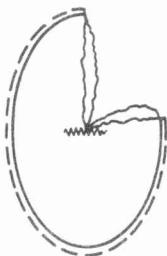
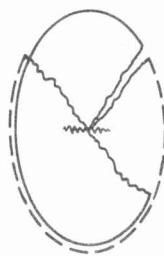
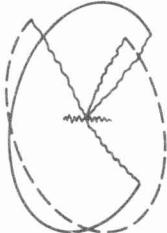

Fig. 14a
Fig. 14b
Fig. 14c
- If Fig. 14b is obtained, adjust "v" of U562 so that the two ellipses precisely cover each other as shown in Fig. 14a.
- If Fig. 14c is obtained, first adjust "ae" of U563 until the two ellipses coincide (see Fig. 14b) and then adjust "v" of U562 until Fig. 14a is obtained.